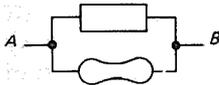

Figure 1.1
2. Things hooked in parallel (Fig. 1.1) have the same voltage across them. Restated, the sum of the "voltage drops" from A to